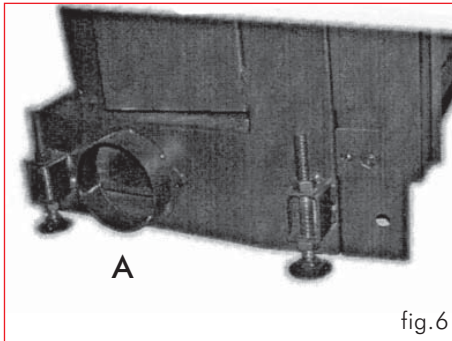

fig.6
The FLAT fireplaces can only be installed in places where there is a sufficient supply of air for combustion. For the fireplace to function properly it is fundamental that the air for combustion reaches the hearth through a tube that goes to the appropriate inlets provided on the sides and behind the fireplace. The fitting (A) with a diameter of 12.5 cm is supplied and this is to be applied to the inlet that is to be used (fig. 6).